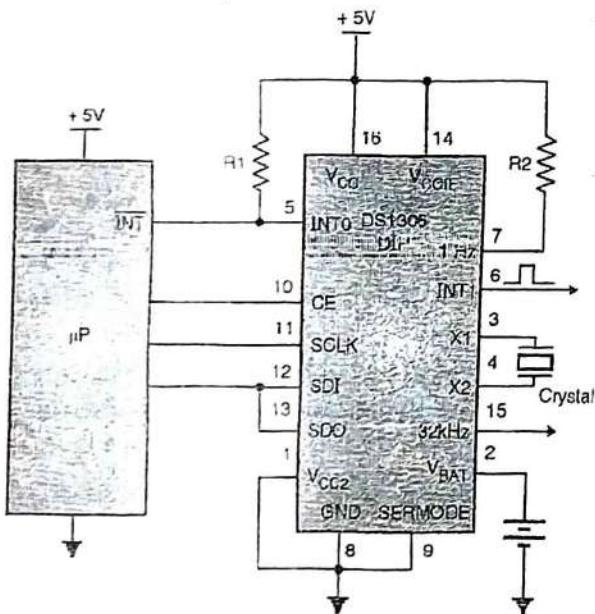

Fig.10.11.1
- The inactive clock polarity is programmable in some microcontrollers. The DS1306 determines on the clock polarity by sampling SCLK when CE becomes active. Therefore either SCLK polarity can be accommodated. Input data (SDI) is latched on the internal strobe edge and output data (SDO) is shifted out on the shift edge (Fig. 10.11.1).
The interfacing of DS1306 with any microcontroller is as shown in the Fig. 10.11.1. The interface uses SPI method of interface. A crystal of 32.768 kHz is to be connected across the X1 and X2 pin.